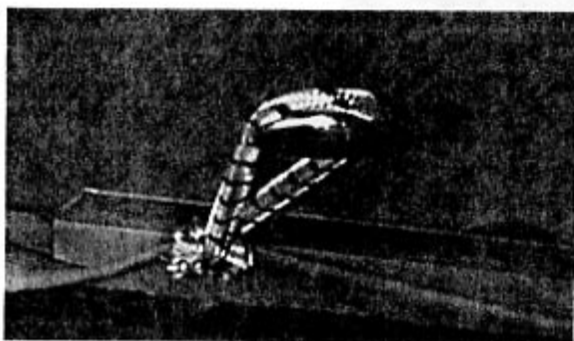

Fig. 12. Using shock cord retainers on bottom of bunk.
8. Wrap the bunkend side panels under the bed edges, hooking the shock cord loops around the metal retainers on the under side of the bed edges. See Fig. 12.